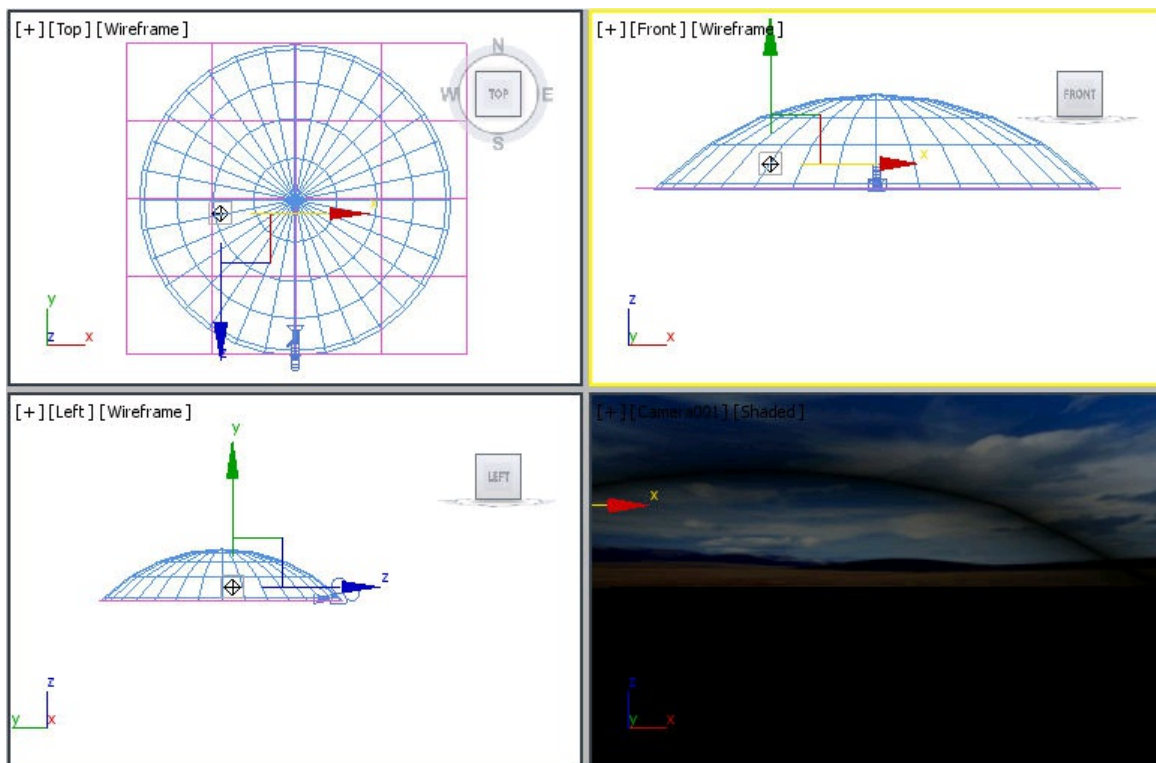

Figure 13-60 Alignment of Omni001 in the viewports
3. Choose the **Select and Move** tool and align *Omni001* in the viewports, as shown in Figure 13-60.